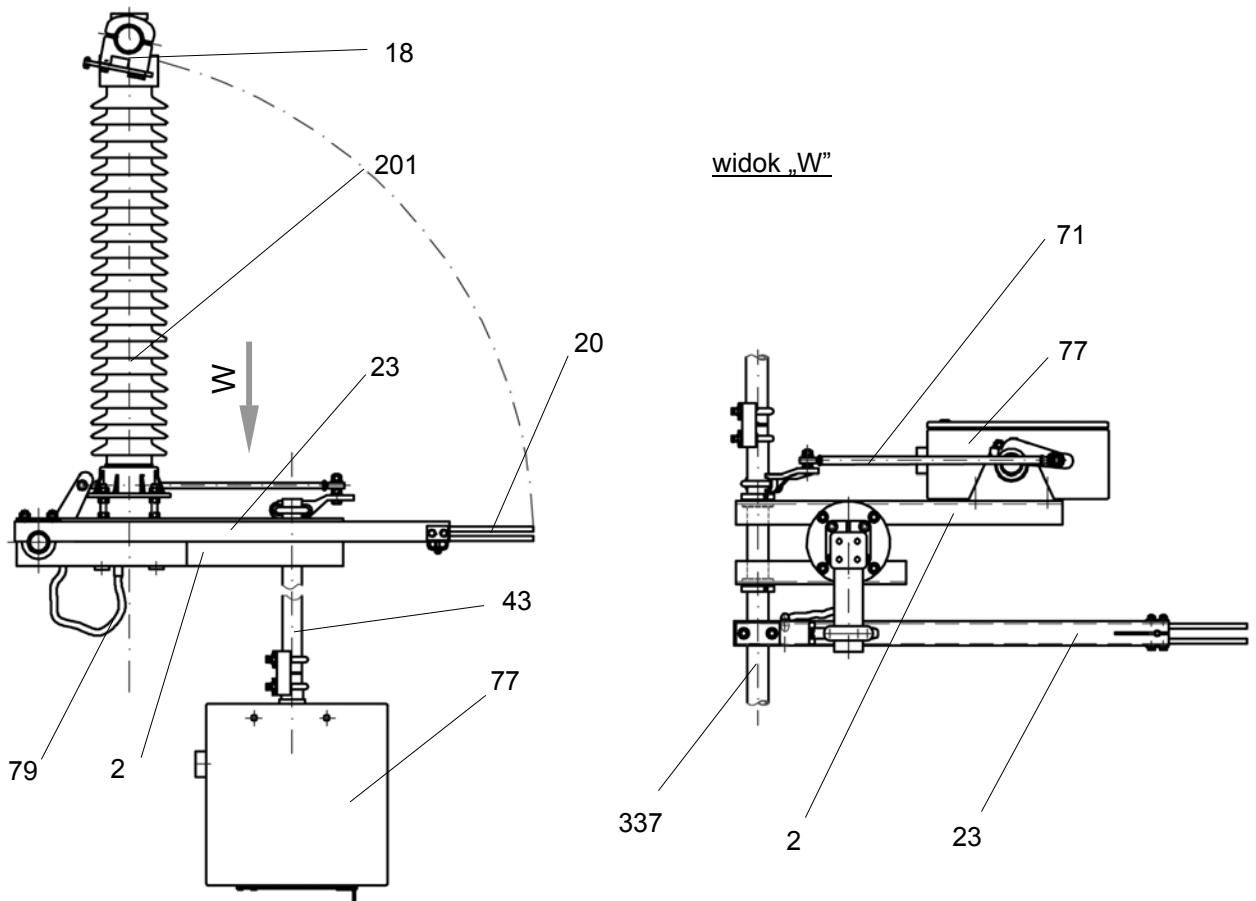

Figure 4: Earthing switch type TEC
The operating mechanisms are fastened laterally to the base frame. For units installed on a higher level it is possible to mount the operating mechanism within reach from the ground level by using the additional pivot bearing and the operating shaft (43) [Fig. 4].